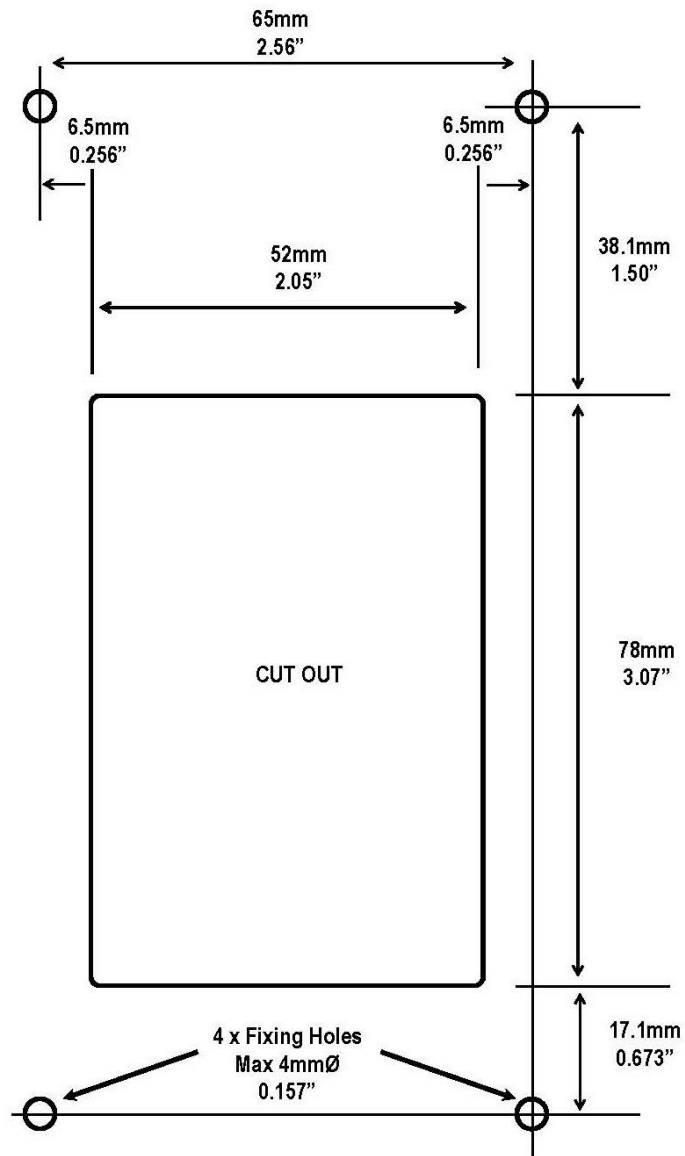

Figure 16: AFA4000 cut-out template
1. Use the cut-out details provided with the unit (Figure 16) to cut out and drill the holes in the fume cupboard for the AFA4000/E mounting bracket.